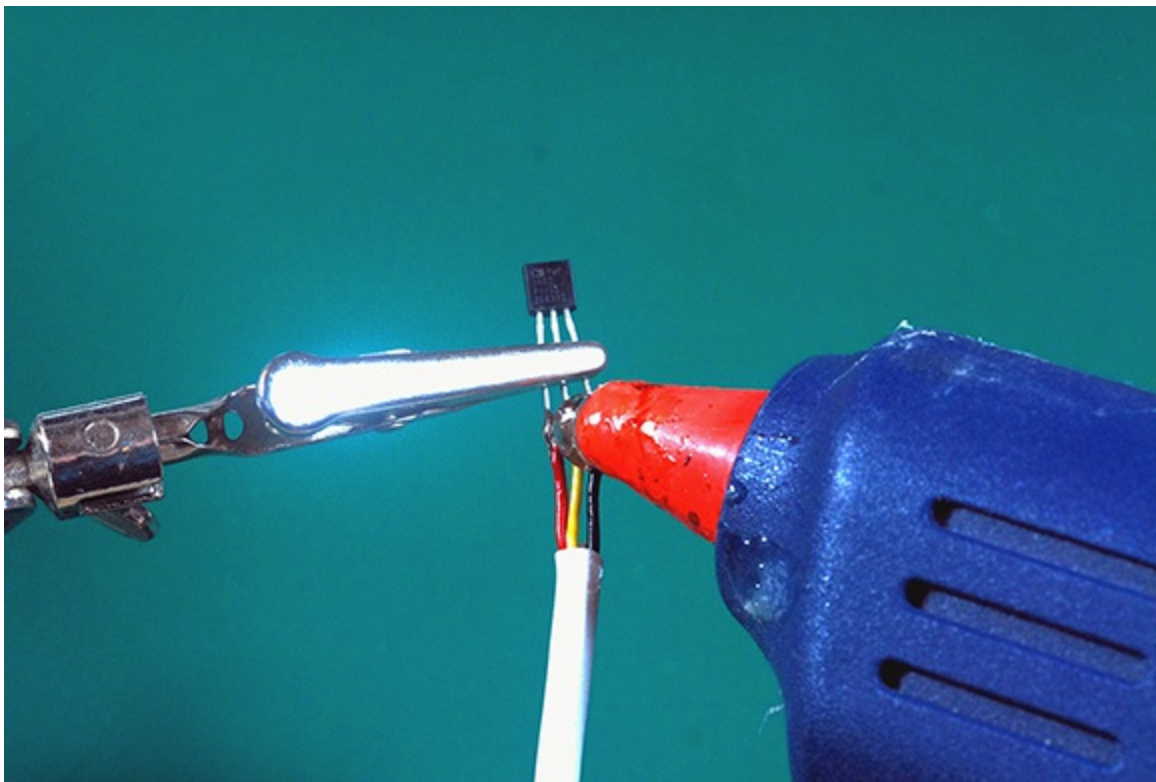

Figure 12-7: Keeping the legs in position with hot glue.
- 8. For each sensor, use a dab of hot glue to keep the legs from touching, as shown in Figure 12-7.**